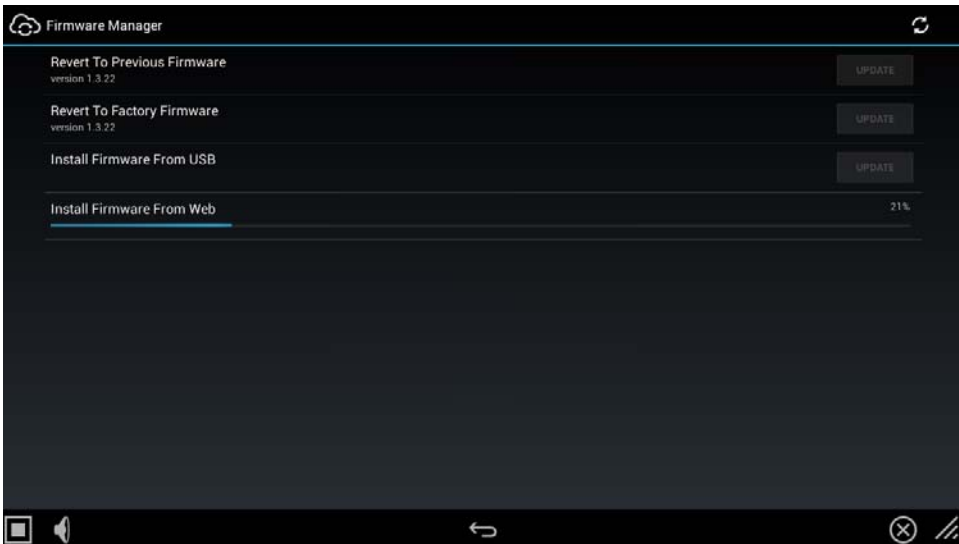

FIG. 124 Firmware Manager page - Install Firmware From Web (in progress)
5. The progress of the download is indicated on the *Firmware Manager* page (FIG. 124).